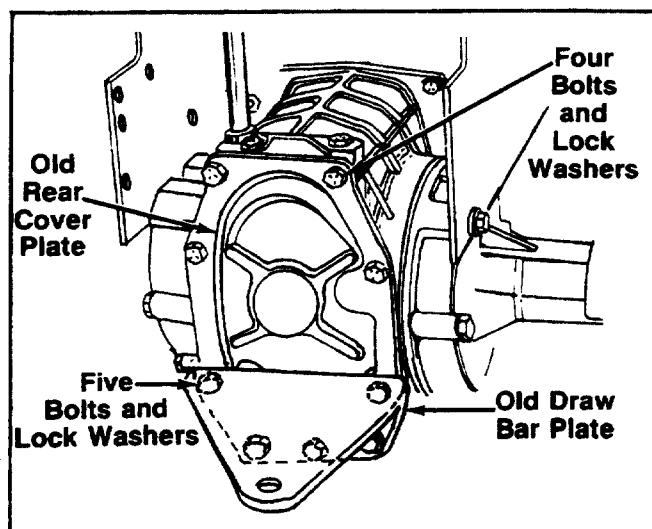

FIGURE 11.
21. Remove five bolts and lock washers holding the draw bar, discard draw bar and bolts; save the lock washers for reassembly. See figure 11.
22. Remove the four bolts and lock washers holding the rear cover plate. Discard rear cover plate and gasket. Retain the bolts and lock washers for reassembly of new rear cover plate. See figure 11.